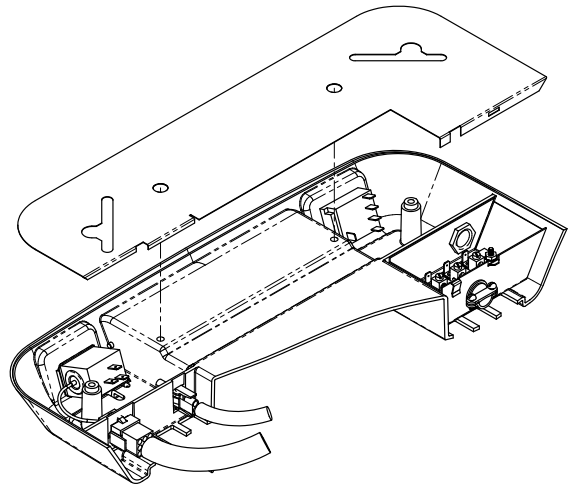

FIGURE 7
- D. Plug the roof top air conditioner electrical conduit into the 9 position receptacle located in the thermostat side of the ceiling assembly. If installing an Electric Heating Element, plug the heater cord into the 2 position receptacle (See Figure 7).
- G. Place the metal control box shield over the thermostat, switch and field wiring boxes. Make certain that all wires are pushed into the control boxes or laying in the wireway between the thermostat and switch boxes and will not be pinched by the control box shield. Control box shield is properly installed when the two holes in the shield are aligned with the two screw holes in the ceiling assembly chute (See Figure 7).
and gaps are present on the sides of the shroud, insert the four optional 3/4 inch screws (provided) through the mounting posts and secure them to the mounting frame above (See Figure 7, 8 & 9 for screw locations).